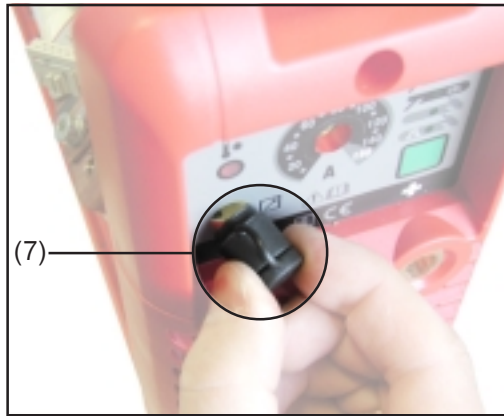

Fig.13
- TP 1500 RC / 1500 TIG: Apply a thin layer of lubricant to the seal of the remote-control socket (7) (Fig.13)